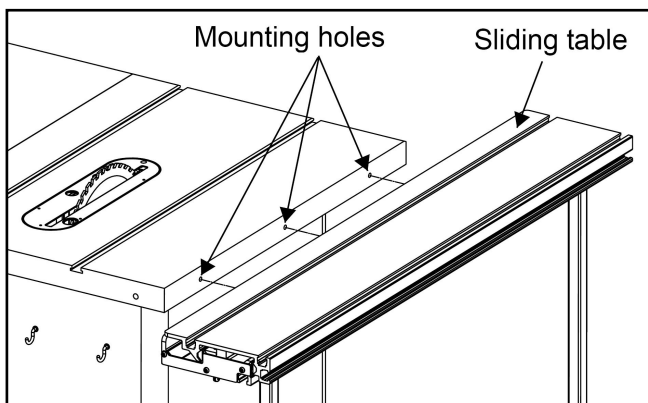

Fig.6
----if you do not have a wing attached to the left side of the table or do not have the correct mounting holes for the sliding table, you need to drill and tap three M8-1.25 holes into the saw table to match the sliding table (see **Fig.6**).